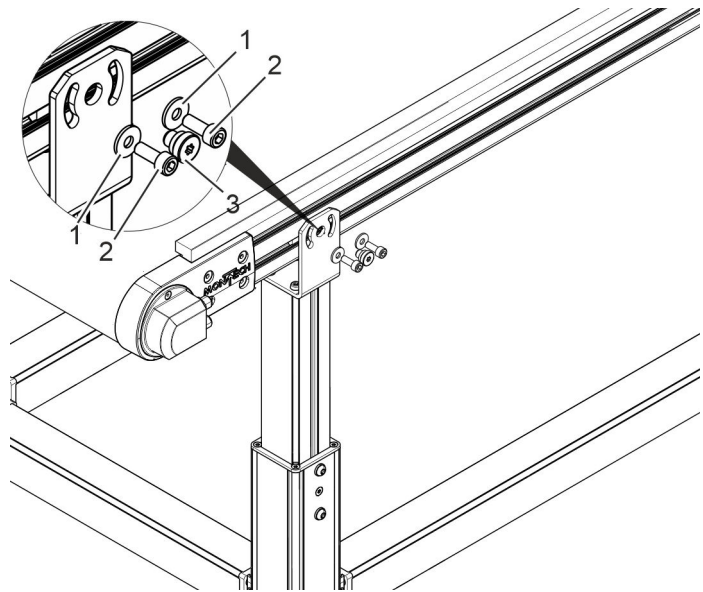

Fig. 21: Fastening the conveyor
- 3.** ➤ Position the conveyor using the positioning screw (Fig. 21/3).
- 5.** ➤ Fasten the conveyor to the floor stand using two cylinder head screws (Fig. 21/2) and washers (Fig. 21/1).